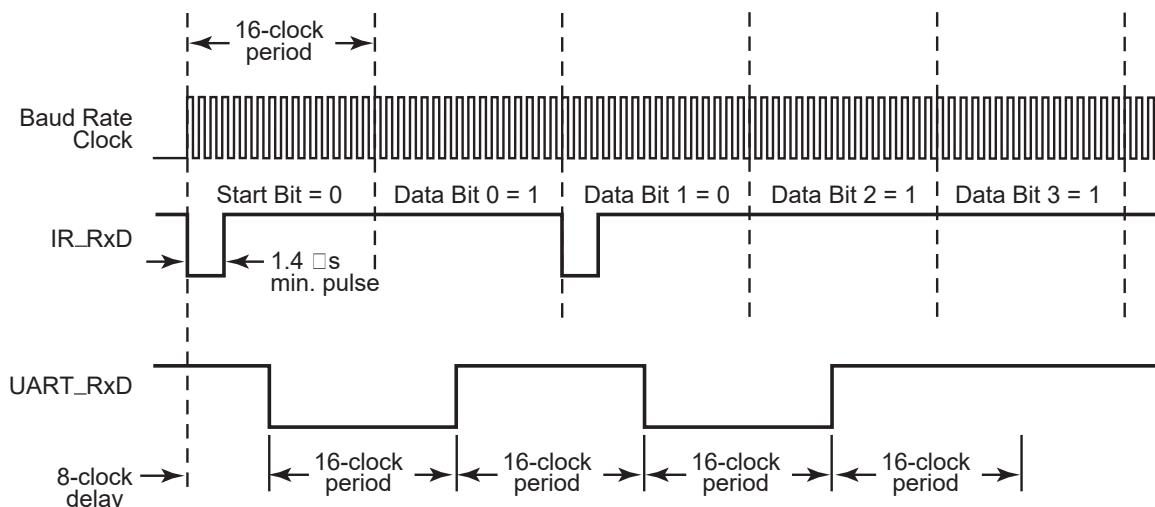

Figure 28. Infrared Data Reception
The UART baud rate clock is used by the IrDA endec to generate the demodulated signal (Rx_D) that drives the UART. Each UART bit period is sixteen baud-clocks wide. Each IR_RXD bit is encoded during a bit period such that a 0 is represented by a pulse and a 1 is represented by no pulse. The IrDA Physical Layer Specification describes a nominal pulse as being $\frac{3}{16}$ of a bit period wide. In this case, if the data to be received is a logical 0 (Low), a 3-clock-wide Low (0) pulse is received following a 7-clock High (1) period. Following the 3-clock Low pulse is a 6-clock High pulse to complete the full 16-clock data period. If the data to be received is a logical 1 (High), the IR_RXD signal is held High (1) for the full 16-clock period. Data reception is displayed in Figure 28.